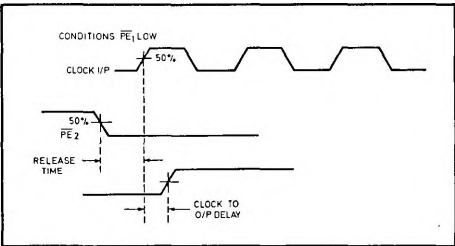

Fig. 4 Release timing diagram
6. Release time is defined as the minimum time that can elapse between a H $\rightarrow$ L transition of a control input and the next L $\rightarrow$ H clock pulse transition to ensure that the  $\pm 11$  mode is forced by that clock pulse (see Fig. 4).